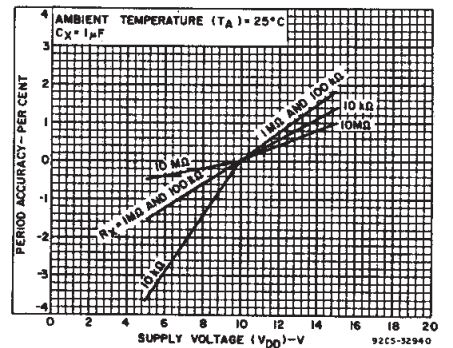

Fig. 11—Typical astable oscillator or Q, Q̄ period accuracy vs. supply voltage.
B. Variations Due to V_{DD} and Temperature Changes — In addition to variations from unit to unit, the astable period varies with V_{DD} and temperature. Typical variations are presented in graphical form in Figs. 11 to 16 with 10 V as reference for voltage variations curves and 25°C as reference for temperature variations curves.